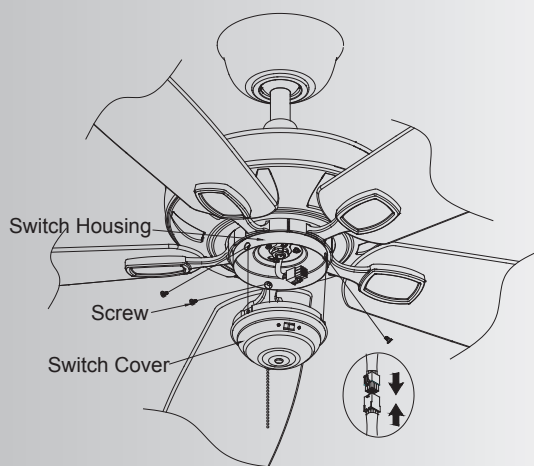

Fig. 19
Step 1. The Square plastic wiring connector from the motor body and switch cover will only fit together one way. Match up the color on the side of each connector, then push them together until the snap engages. (Fig. 19)